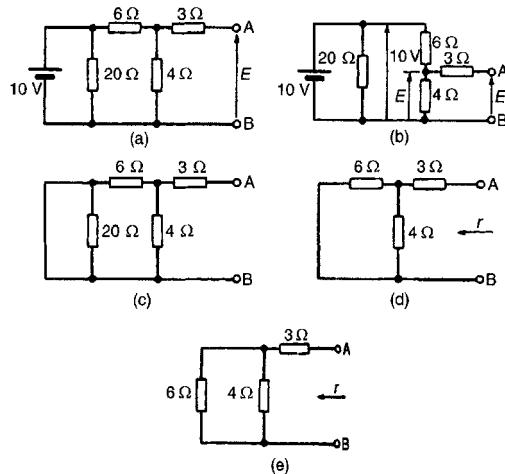

Figure 13.32
- (v) For the circuit shown in Fig. 13.32(a), the 3Ω resistor carries no current and the p.d. across the 20Ω resistor is 10 V. Redrawing the circuit gives Fig. 13.32(b), from which
- (vi) If the 10 V battery in Fig. 13.32(a) is removed and replaced by a short-circuit, as shown in Fig. 13.32(c), then the 20Ω resistor may be removed. The reason for this is that a short-circuit has zero resistance, and 20Ω in parallel with zero ohms gives an equivalent resistance of $(20 \times 0)/(20 + 0)$ i.e. 0Ω . The circuit
is then as shown in Fig. 13.32(d), which is redrawn in Fig. 13.32(e). From Fig. 13.32(e), the equivalent resistance across AB,